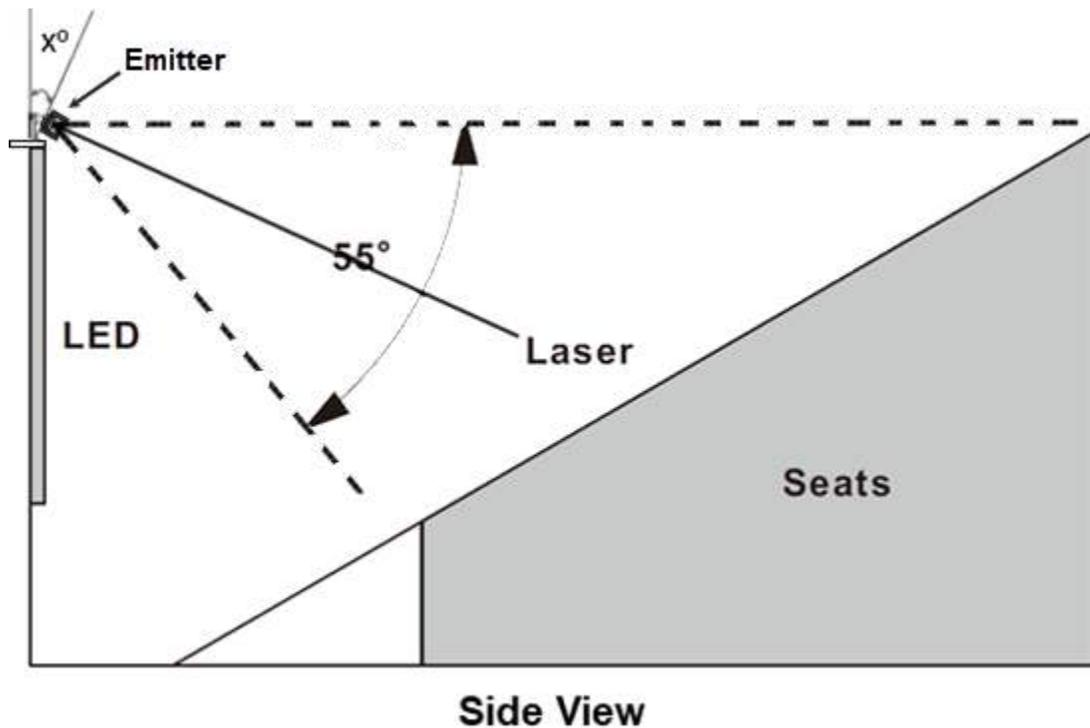

Figure 2: Placement of Emitters – Side View
- As seen in the sectional view representation in the **Figure 2**, the Emitters should be placed above the LED screen, just behind the acoustically transparent masking. Please check with GDC for recommendations on approved acoustically transparent masking that allows the infrared beam to pass through.